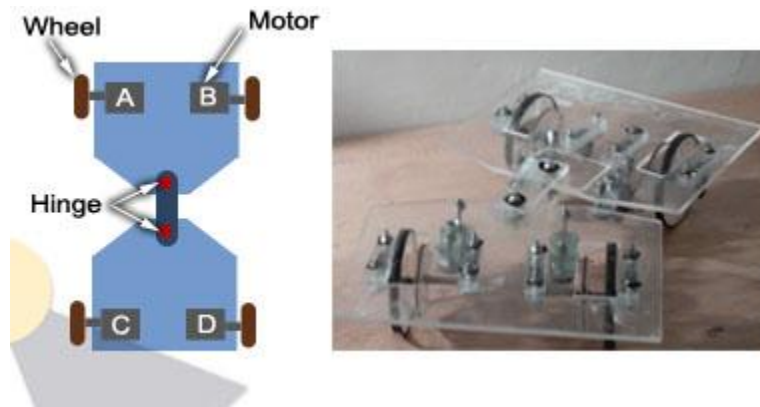

figure 1.E
**Figure 1.E** shows how to implement such a configuration, and shows how the the chassis is divided into two parts, hinged together, allowing it to change it's shape to turn in tight curves.